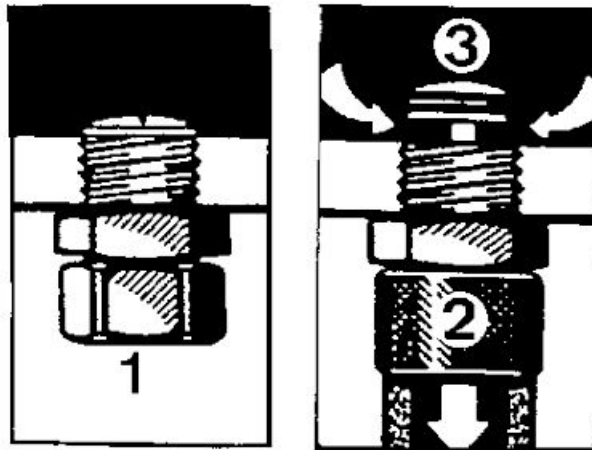

Fig. 149
After an extended period of downtime, drain any water from the hydraulic oil box. To do this, use the drain valve (1) (**Fig. 149**) on the bottom of the box.
- Remove the lock nut from the drain valve (1) (**Fig. 149**).
- Screw the drain hose (2) onto the drain valve.